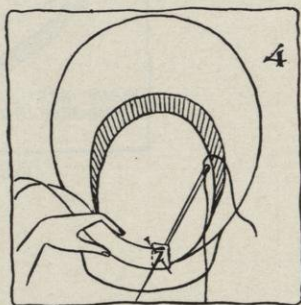

FIG. 4.
- b. Bring your threaded needle up from the wrong side of the ribbon through the two selvages at the folded end of the ribbon, at one edge only (see Figure 4). Pull this thread through and up to the knot.